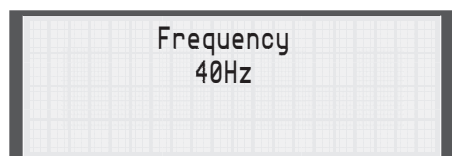

Fig. 5.12
5. Press the Freq. key and use the Arrow keys to set the frequency you want to use (**Fig. 5.12**). If you are unsure what frequency to use, set the frequency at 30Hz. Press the Enter key.